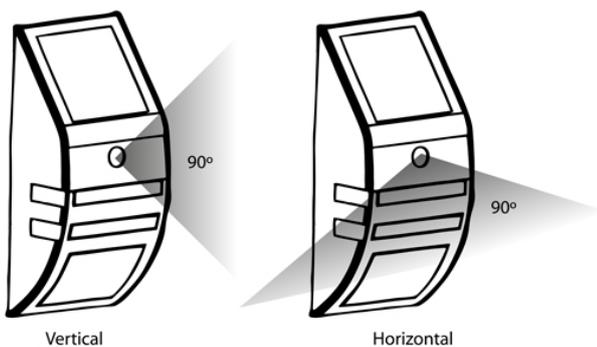

Figure 1
This sensor has a range of up to 5 meters with a 90° detection range, both vertically and horizontally (see Figure 1).
- When choosing a suitable location for your solar light, remember that the PIR sensor detects an area of approximately 90 degrees both horizontally and vertically, within a range of up to 5 meters (see figure 1).
If the LED controlled by the PIR sensor is not activating, check to ensure that the light has been directed towards the detection area. Refer to figure 1 and re-position the light if necessary.